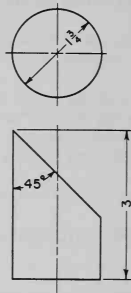

Fig. 11-12. Truncated cylinder.
1. Develop a pattern for the truncated cylinder in Fig. 11-12.